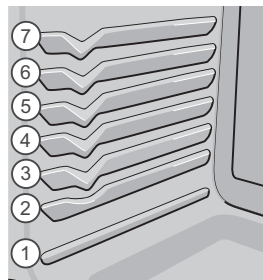

Figure 12: Rack positions
- For best results when baking cakes using two oven racks, place racks in positions 3 with offset rack and 5 using flat rack (See Figure 12).